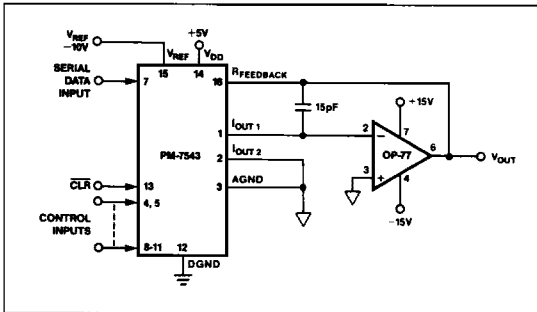

FIGURE 7: Unipolar Operation with High Accuracy Op Amp (2-Quadrant)
1. Phase compensation (see Figures 7 and 8).
In most applications, linearity depends upon the potential of I_{OUT1}, I_{OUT2}, and AGND (pins 1, 2, and 3) being exactly equal to each other. In most applications, the DAC is connected to an external op amp with its noninverting input tied to ground (see Figures 7 and 8). The amplifier selected should have a low input bias current and low drift over temperature. The amplifier's input offset voltage should be nulled to less than ±200μV (less than 10% of 1 LSB).
The circuit shown in Figures 7 and 8 may be used with an AC or DC reference voltage. The circuit's output will range between 0V and approximately $-V_{REF}$ (4095/4096) depending upon the digital input code. The relationship between the digital input and the analog output is shown in Table 2. The V_{REF} voltage range is the maximum input voltage range of the op amp or $\pm 25V$, whichever is lowest.
1. Nominal full scale for the circuits of Figures 7 and 8 is given by $FS = -V_{REF} \left(\frac{4095}{4096} \right)$.
2. Nominal LSB magnitude for the circuits of Figures 7 and 8 is given by $LSB = V_{REF} \left(\frac{1}{4096} \right)$ or $V_{REF} (2^{-11})$.
The transfer function for the PM-7543 connected in the multiplying mode as shown in Figures 7 and 8 is: